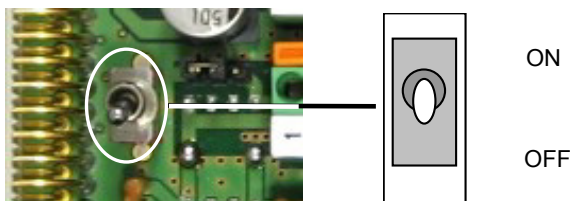

Figure 6 - Power Switch ON/OFF Positions
Switch ON the C-BOX 150 power switch (see Figure 6).
The power switch (see Figure 6) switches the power supply ON or OFF for both the C-BOX 150 and the connected scanner.
- 2) Verify that the C-BOX 150 power switch is off (see Figure 6).